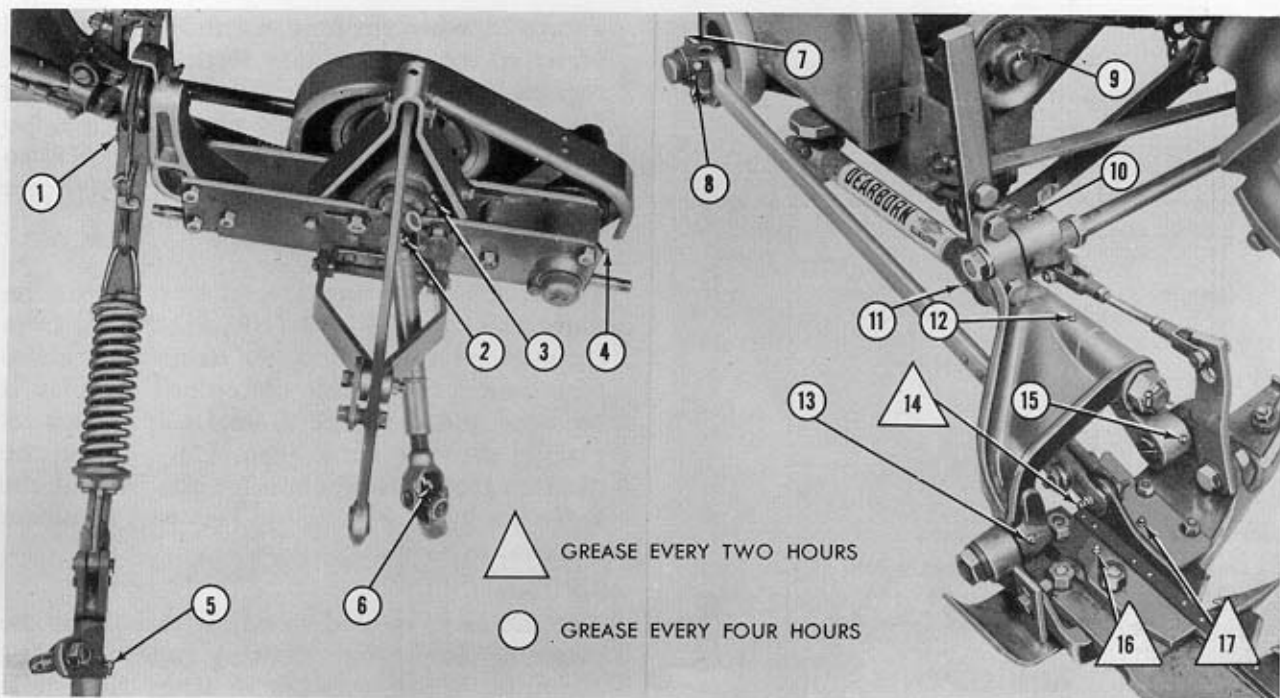

Figure 22
There are seventeen grease fittings on the Dearborn Rear Attached Mower as shown in Figure 22. The knife head and pitman clamp fitting (14) and the knife head guide plate fittings (16) and (17), Figure 22, should be greased after every two hour's operation. All other fittings should be greased after every four hours of operation. Lubricate the wearing surface of the knife clips every two hours with No. 30 grade machine oil.
NOTE: The bearing and journal assembly with fittings (2) and (6), Figure 22, are prepacked on some mowers. In this case these bearings should be repacked with grease at the end of each season.